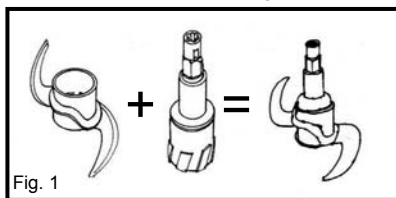

Fig. 1
2. Holding the chopping blade by plastic hub, remove the protective blade cover and insert it onto the spindle. (Fig. 1)